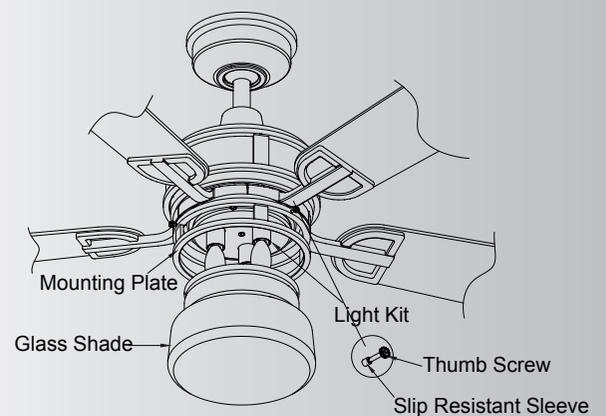

Fig. 25
**Step 2.** Place the slip resistant sleeve on the end of the thumb screw with knurled head. Lift the glass shade allowing it against the mounting plate and securely tighten with the 3 thumb screws. Do not overtighten the screws.(Fig. 25)